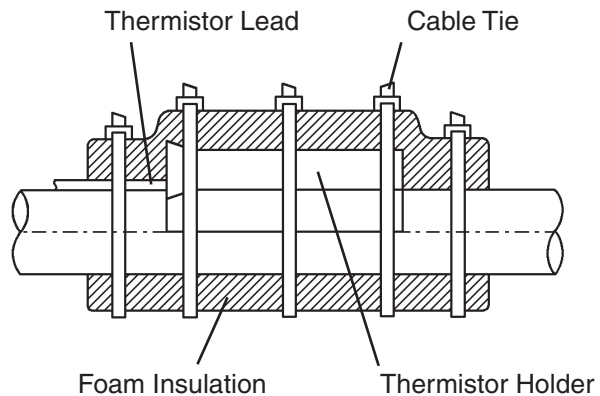

Fig. 1
- 5) Remove the plastic cable ties, foam insulation, thermistor holder and thermistor. See Fig. 1.